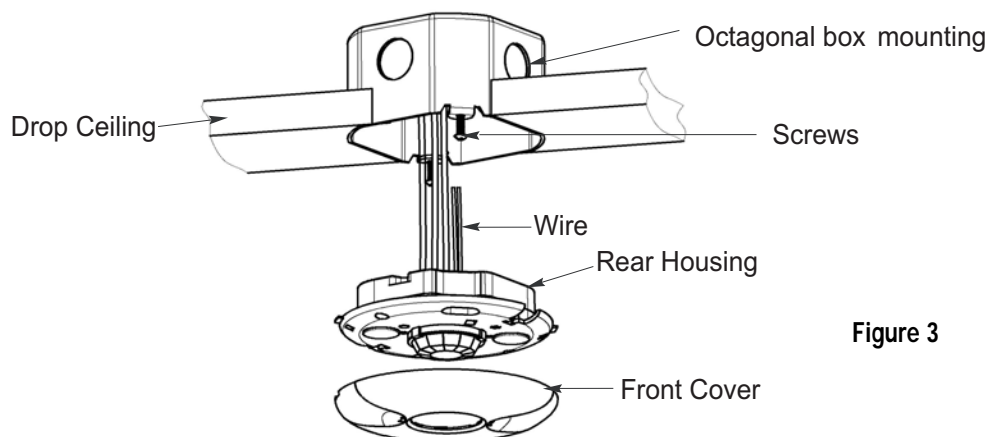

Figure 3
7. Snap the front cover onto the sensor(see Figure 3)